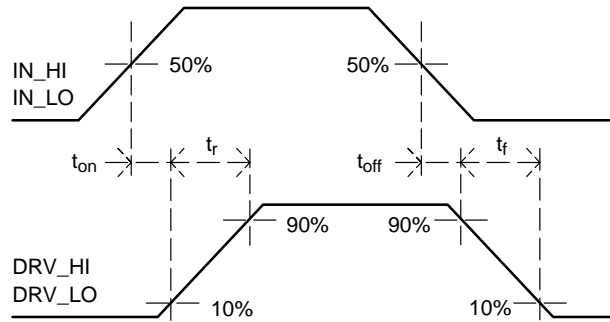

Figure 4. Switching Time Waveform Definitions
4. Timing diagram definition see Figures 4, 5 and 6.